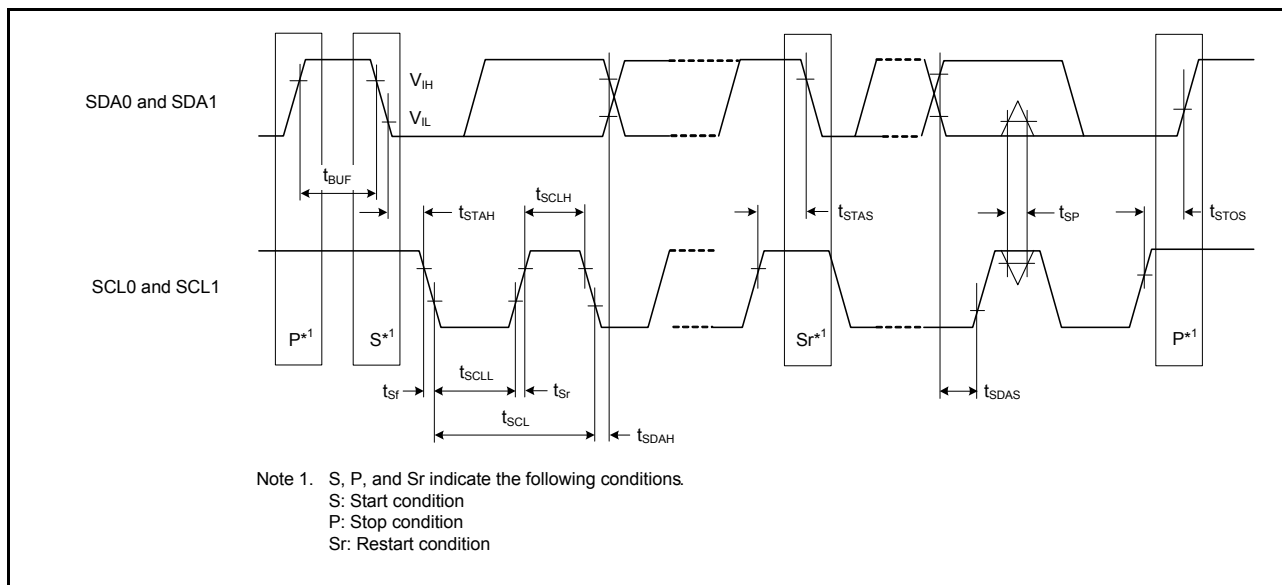

Figure 41.56 I²C bus interface input/output timing
| IIC (standard mode, SMBus) | SCL input cycle time | t_{SCL} | $6 (12) \times t_{IICcyc} + 1300$ | - | ns | Figure 41.56 |
| IIC*2 (Fast mode) | SCL input cycle time | t_{SCL} | $6 (12) \times t_{IICcyc} + 600$ | - | ns | Figure 41.56 |